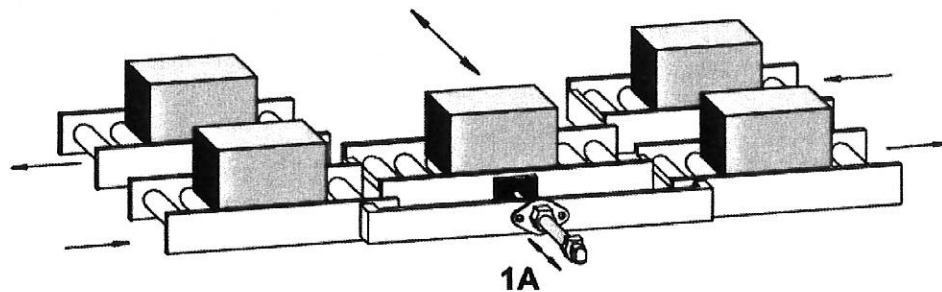

Figure 3(a)
- (a) The use of a diverting device part will enable one conveyor track to move to another conveyor track. By pressing a switch button, the frame of the diverting device is pushed forward. The part is moved over and transported onwards in the opposite direction. By pressing another push button switch, the frame is returned to its start position. Refer to Figure 3(a).